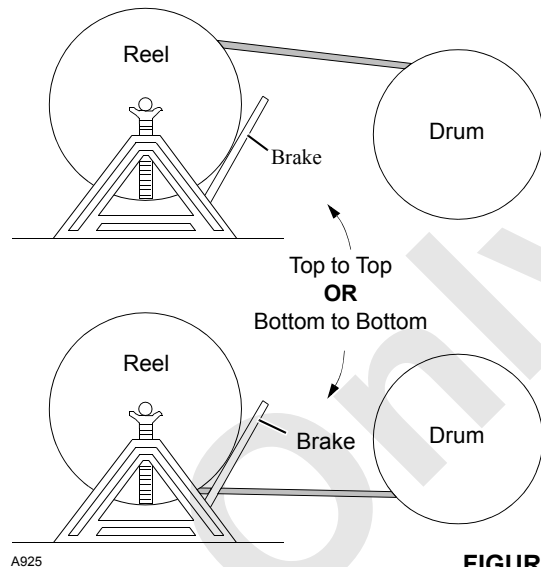

FIGURE 4-48
2. Provide a brake at shipping reel (see Figure 4-48) so wire rope can be wound tightly onto drum.
3. **Avoid a reverse bend when winding wire rope onto drum:** wind from top of reel to top of drum or from bottom of reel to bottom of drum as shown in Figure 4-48.